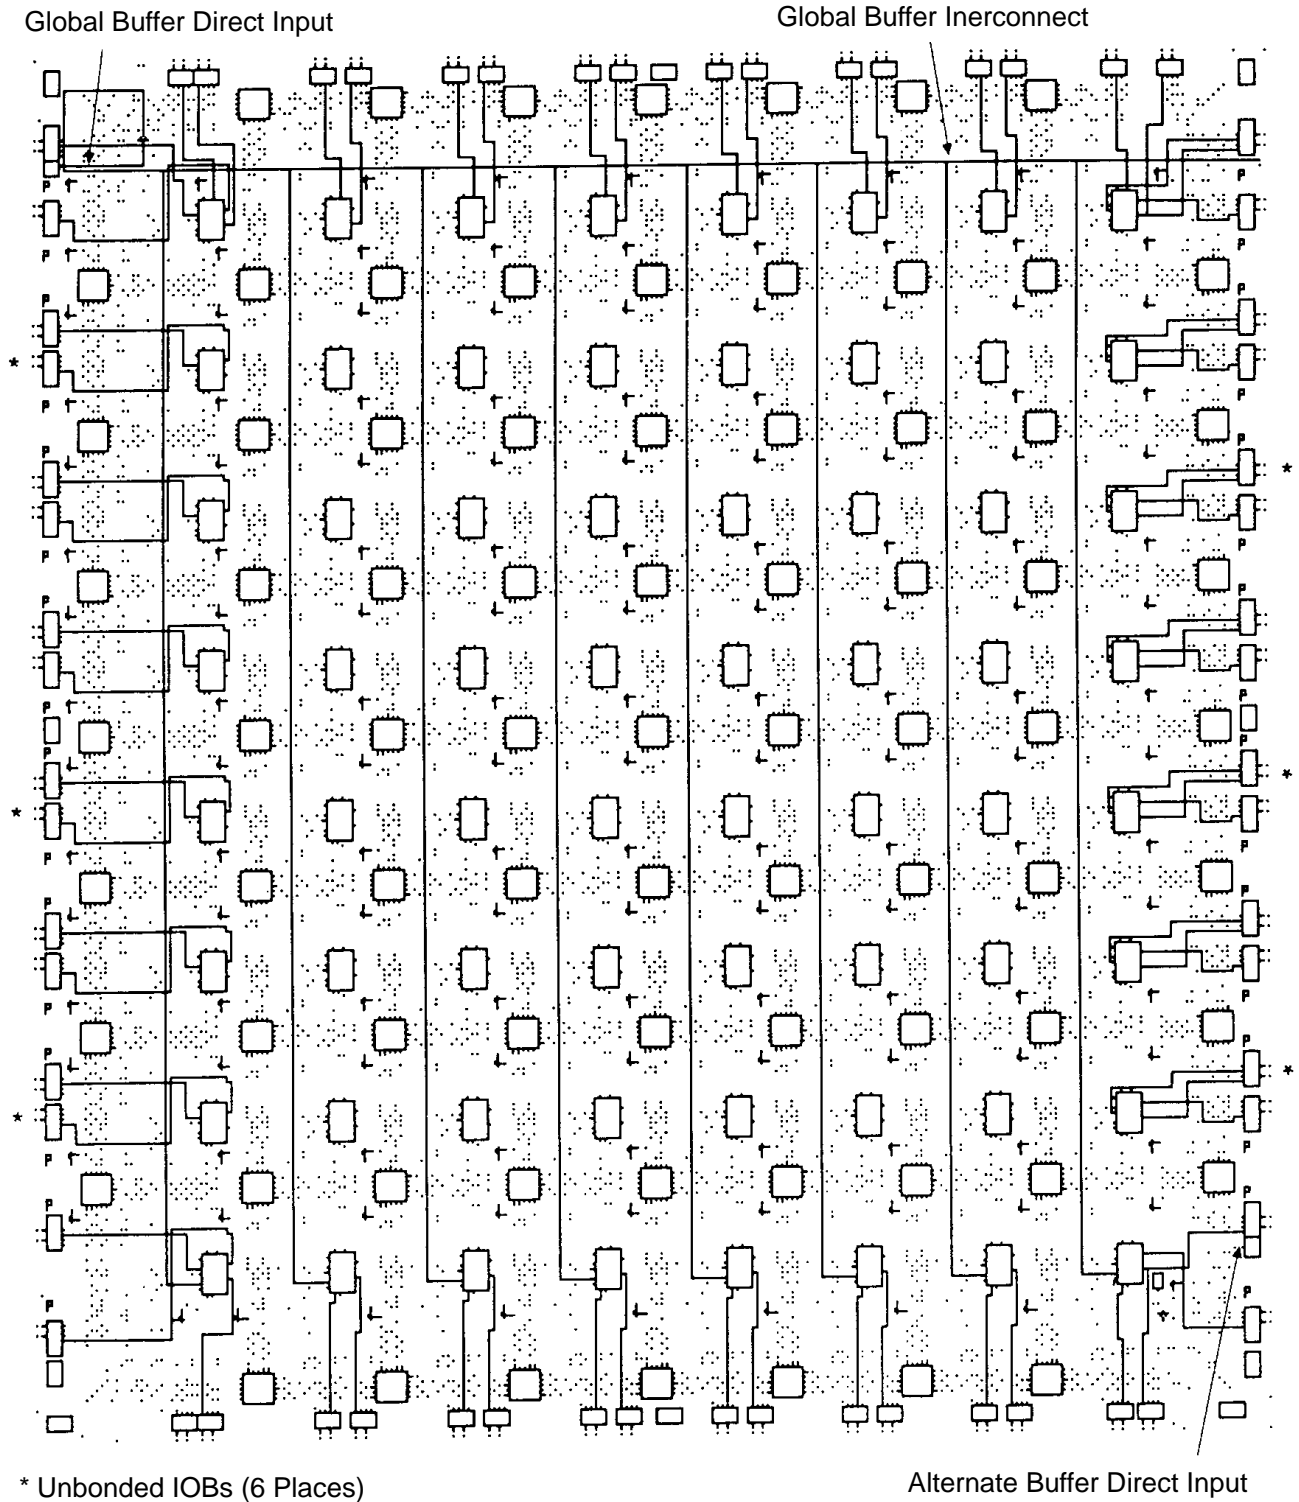

Figure 13: XC3020A Die-Edge IOBs. The XC3020A die-edge IOBs are provided with direct access to adjacent CLBs.
Direct interconnect, shown in Figure 12, provides the most efficient implementation of networks between adjacent CLBs or I/O Blocks. Signals routed from block to block using the direct interconnect exhibit minimum interconnect propagation and use no general interconnect resources. For each CLB, the X output may be connected directly to the B input of the CLB immediately to its right and to the C input of the CLB to its left. The Y output can use direct interconnect to drive the D input of the block immediately above and the A input of the block below. Direct interconnect should be used to maximize the speed of high-performance portions of logic. Where logic blocks are adjacent to IOBs, direct connect is provided alternately to the IOB inputs (I) and outputs (O) on all four edges of the die. The right edge provides additional direct connects from CLB outputs to adjacent IOBs. Direct interconnections of IOBs with CLBs are shown in Figure 13.